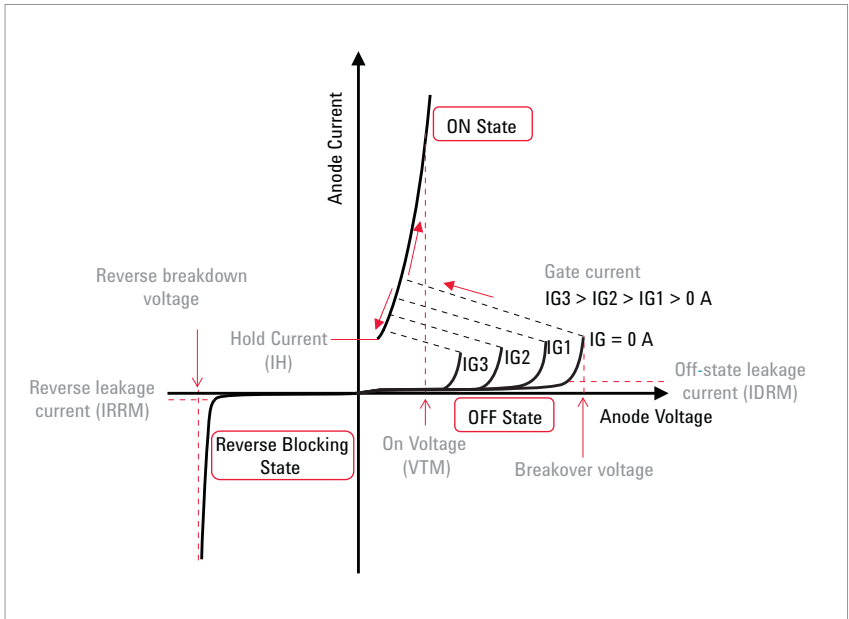

Figure 1. I-V characteristics of thyristor
Thyristors, which behave like current-triggered diodes, have the unique current-voltage (IV) characteristics shown in Figure 1. This discontinuous behavior means that the characterization of a thyristor's DC parameters requires different methodologies than those used to characterize power devices such as IGBTs and high-power MOSFETs.